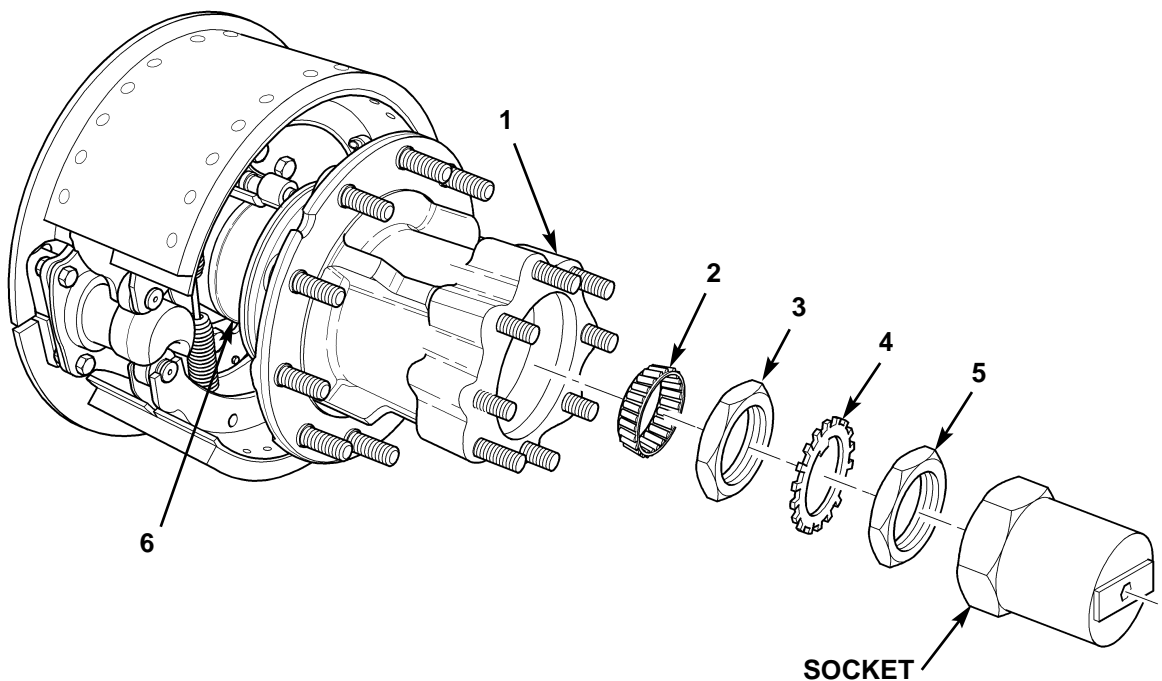

Figure 5. Installing Rear-Rear Wheel Hub.
8. Fill cavity in rear hub (figure 5, item 1) with grease and carefully position hub (figure 5, item 1) on axle housing spindle (figure 5, item 6).
9. Apply grease to outer bearing cone (figure 5, item 2) and position bearing cone (figure 5, item 2) against outer cup in rear hub (figure 5, item 1).
10. Install inner nut (figure 5, item 3) on axle housing spindle (figure 5, item 6) with machined surface facing out. Using 4-1/8 in. (105 mm) socket, tighten inner nut (figure 5, item 3) to 50 lb-ft (68 N•m) while rotating hub (figure 5, item 1) back and forth. Back off inner nut (figure 5, item 3) 1/4 to 1/3 turn. Rotate hub; hub should rotate freely.
11. Install lockwasher (figure 5, item 4) on axle housing spindle (figure 5, item 6).
12. Install outer nut (figure 5, item 5) on axle housing spindle (figure 5, item 6) with machined surface facing out. Using 4-1/8 in. (105 mm) socket, tighten outer nut (figure 5, item 5) to 250–275 lb-ft (339–373 N•m). Rotate hub; hub should rotate freely.
13. Alternately bend one tab on lockwasher (figure 5, item 4) against each flat on outer nut (figure 5, item 5).